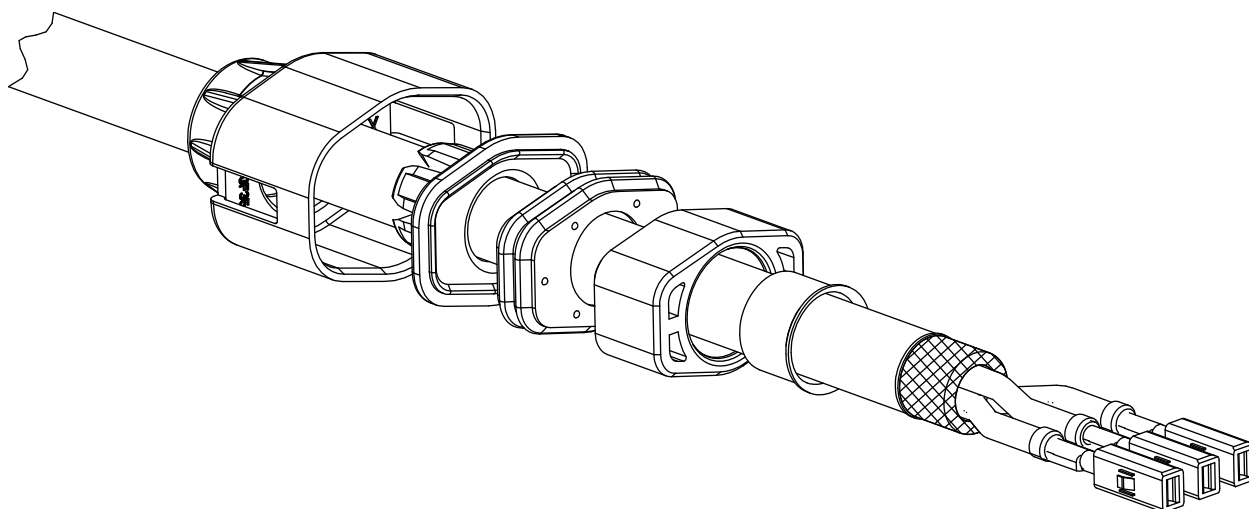

Figure 8
6. Crimp the receptacle contacts onto the terminal conductors as shown in Figure 8. Refer to Application Specification 114-18148-1 or 114-18387 for specific crimp information. Locate the contact to be crimped in the appropriate tooling according to the instructions packaged with that tooling. Detailed instructions covering the placement of contacts in the tooling and the use of such tooling is packaged with each tool. See Section 5, TOOLING.